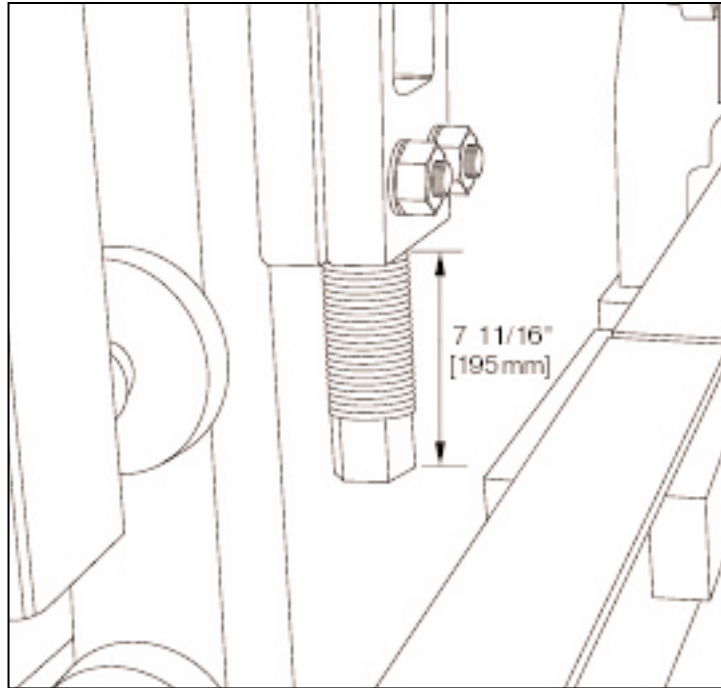

Figure 4.28 UPPER HEIGHT STOPS.
4.2.6 Adjust the upper height stops so that **7 11/16" [195mm]** extend past the bottom of the castings as shown on figure 4.28.